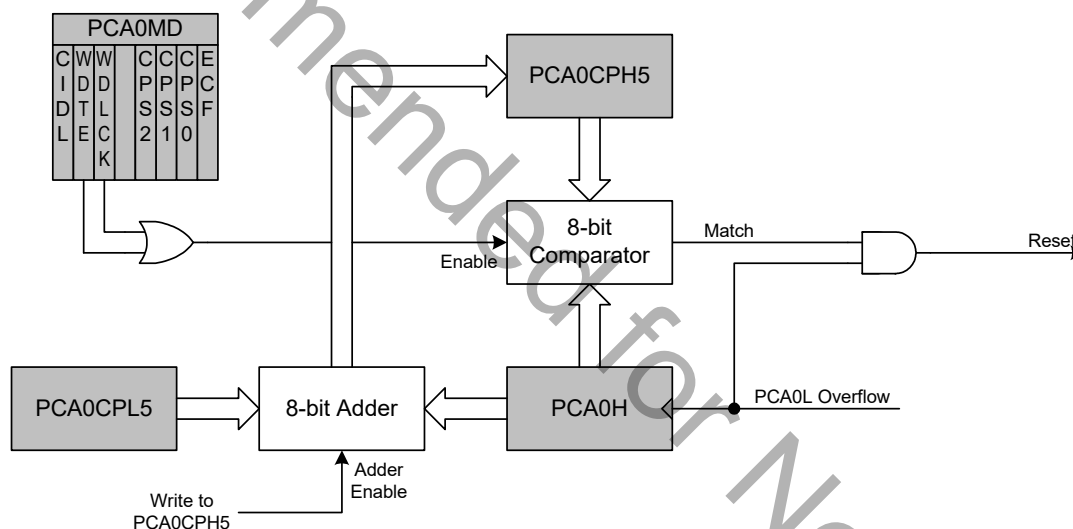

Figure 22.10. PCA Module 5 with Watchdog Timer Enabled
While the WDT is enabled, writes to the CR bit will not change the PCA counter state; the counter will run until the WDT is disabled. The PCA counter run control (CR) will read zero if the WDT is enabled but user software has not enabled the PCA counter. If a match occurs between PCA0CPH5 and PCA0H while the WDT is enabled, a reset will be generated. To prevent a WDT reset, the WDT may be updated with a write of any value to PCA0CPH5. Upon a PCA0CPH5 write, PCA0H plus the offset held in PCA0CPL5 is loaded into PCA0CPH5 (See Figure 22.10).